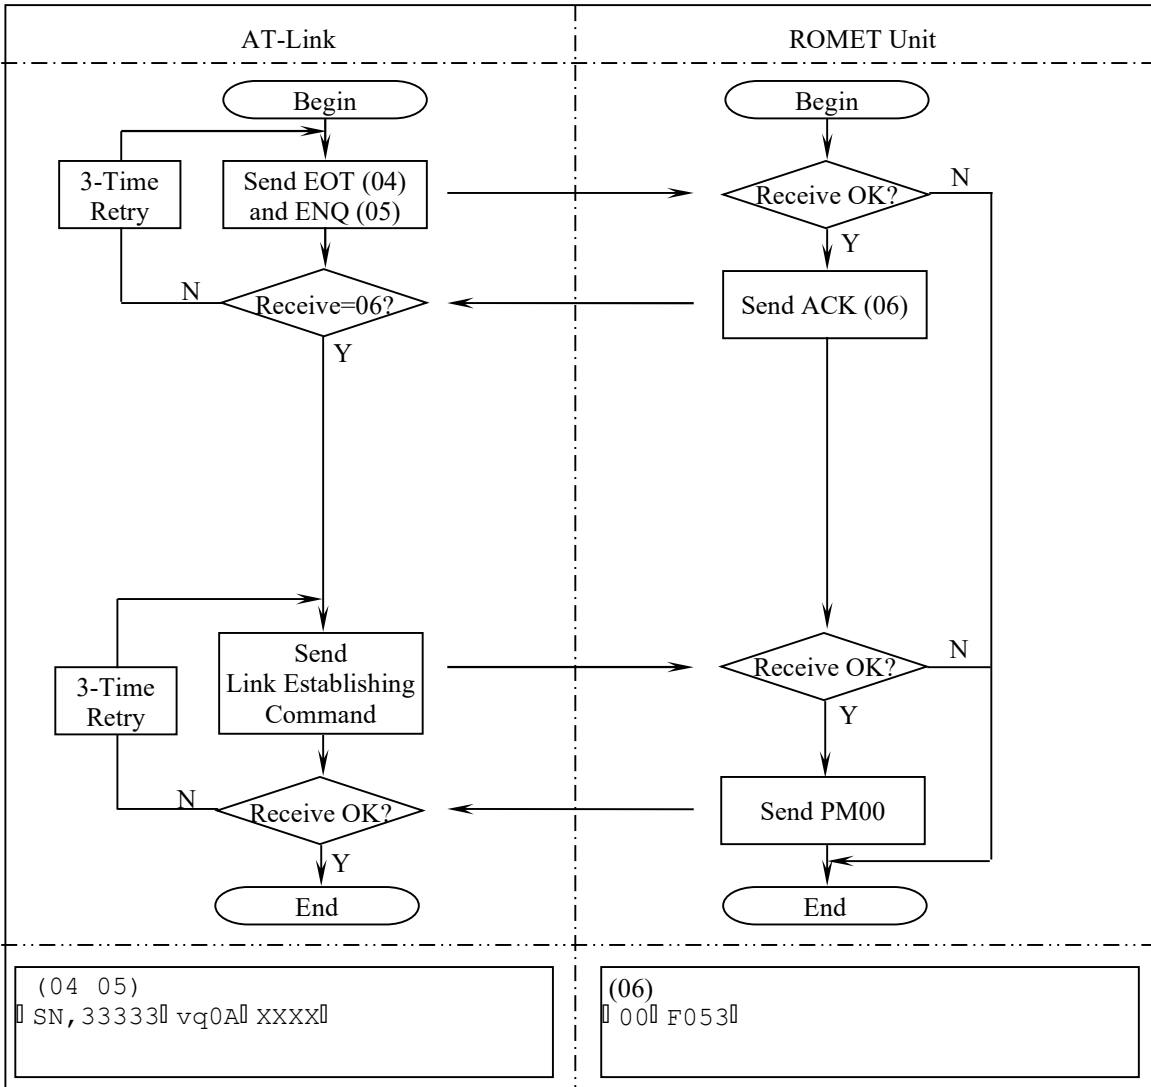

Figure 7-1. Link Establishing Flow Chart
7.1 Link Establishing (Figure 7-1)